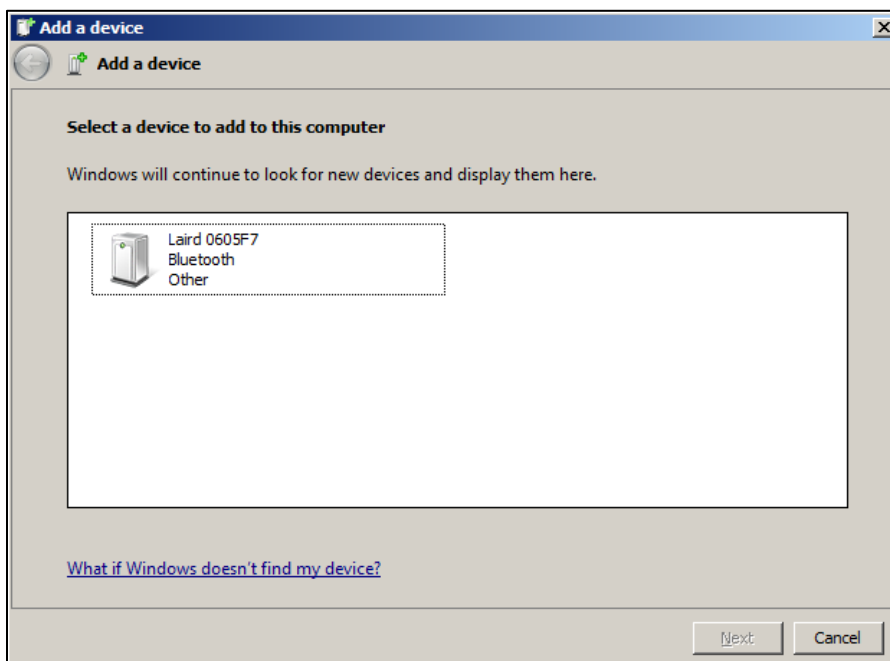

Figure 9: Select the BT module
2. Select BT740 module and click **Next**. In Figure 9, Laird 0605F7 is the Bluetooth Friendly name which is configurable.